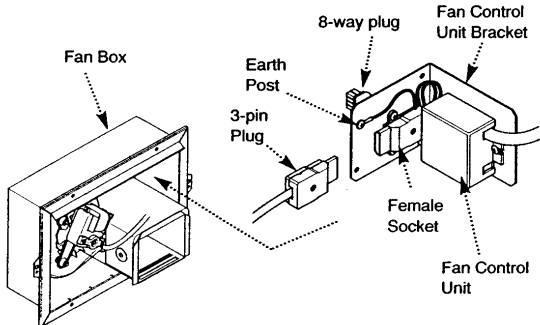

Fig. 22
9. Undo the two screws securing the fan control unit bracket to the fan box and draw the bracket forwards (Fig. 22).
11. Connect the 3 pin plug to the socket on the fan control unit bracket and re-fit the grommet into slot (Fig. 22).
13. Connect the 8-pin plug from the fan box (Fig. 22) to the 8-pin socket on the harness. Connect the earth lead to the screw on the rear face of the fan box.